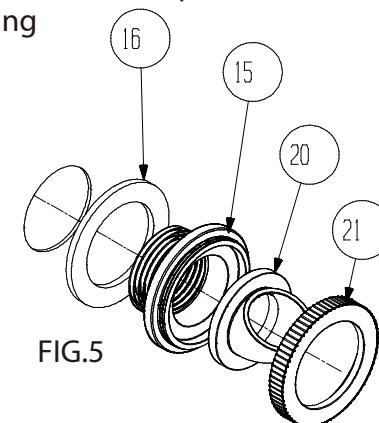

FIG.5
A. DIVERTER FITTING USE; diverts direction of return water entering the pool, see part #20 FIG.5. You can adjust the fitting by loosening the LOCKING RING see part # 21 FIG 5. The DIVERTER FITTING can be used to help generate clockwise rotation of the pools water toward the SKIMMER intake opening area of your pools wall. To do so slightly loosen the LOCKING RING and rotate the DIVERTER FITTING upward pushing water horizontally under the waters surface pointing away from the SKIMMER Intake area. DO NOT POINT it directly toward the SKIMMER this will deeply decrease skimming and filtration. Tighten the LOCKING RING to hold the DIVERTER FITTING in the desired position you choose. You can position the DIVERTER FITTING downward later to assist in keeping sediment from building along the bottom of your pool.